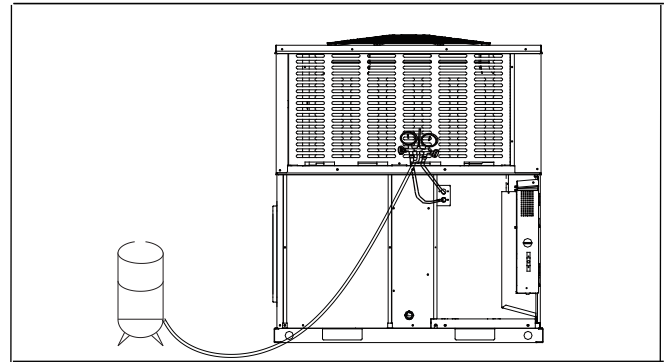

Figure 8-4
- ▶ Connect gauges to refrigerant bottle and unit as illustrated (Fig 8-4).